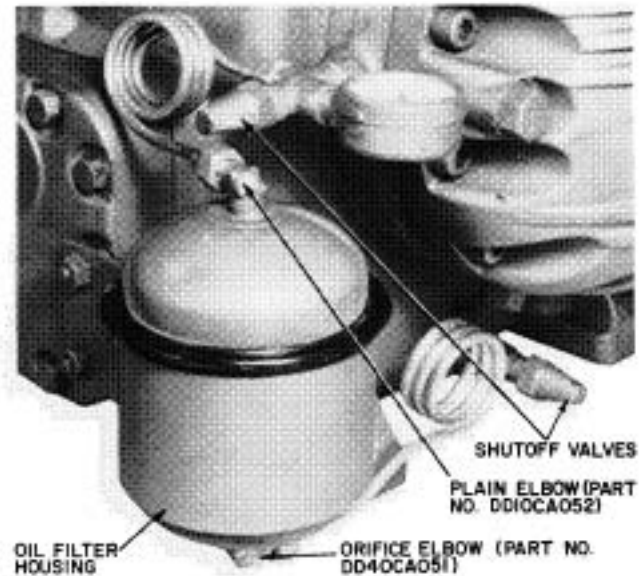

Fig. 25 — Oil Filter Accessory Package (5H40 through 5H86)
A bleed-type, high-pressure, disposable filter is available as an accessory for 5H40 through 5H86 compressors (Fig. 25). Replace oil filter after the first 50 hours of operation, or whenever the oil is changed or becomes dirty.
1. Close oil-line shutoff valves on each side of filter (Fig. 25).